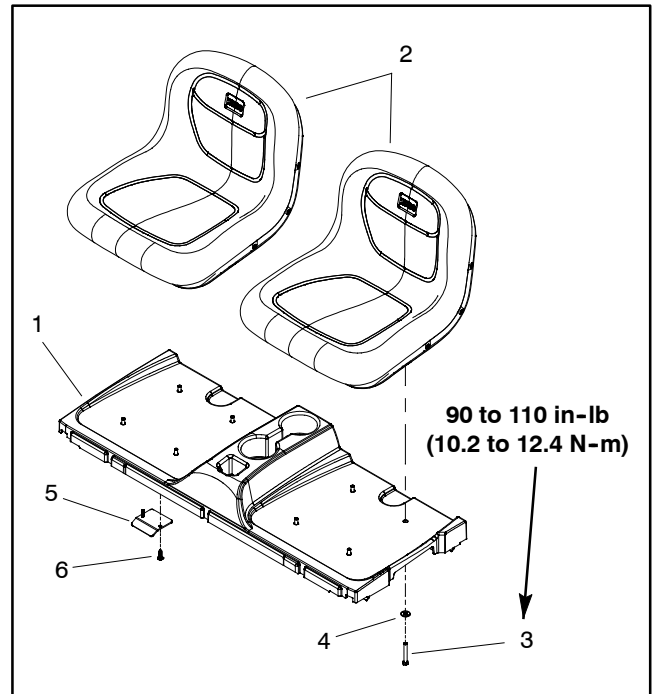

Figure 39
5. If needed, remove seats from seat base (Fig. 39).
1. Secure seats to seat base if they were removed (Fig. 39). Torque cap screws from **90 to 110 in-lb (10.2 to 12.4 N-m)**.